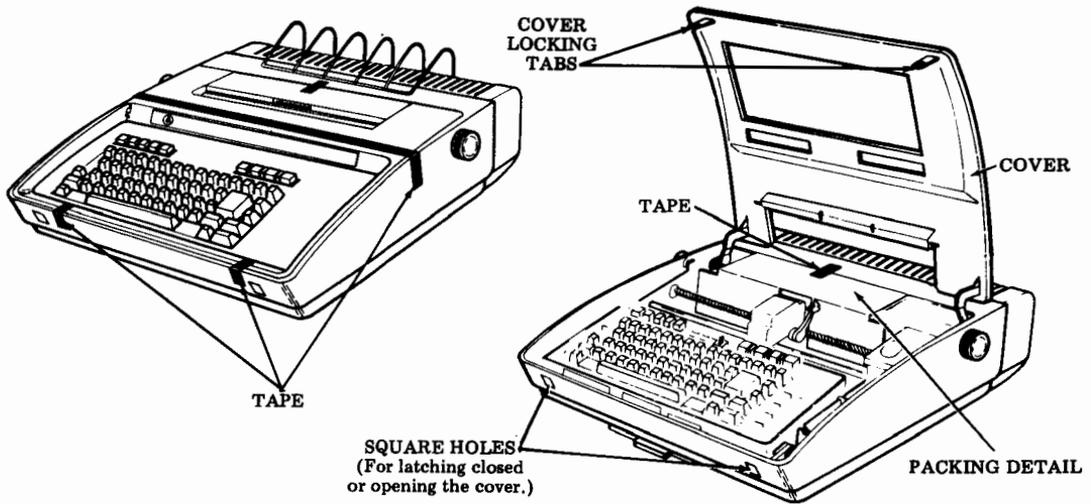

Fig. 2—Packing Detail
- 3.03 Unpack the large carton. Refer to instructions on the container. Remove tape securing the cover to the housing (Fig. 2).
- 3.04 Depress the cover locking tabs on the lower front of the cabinet and lift the cover. Remove the packing detail securing the print head in place (Fig. 2).